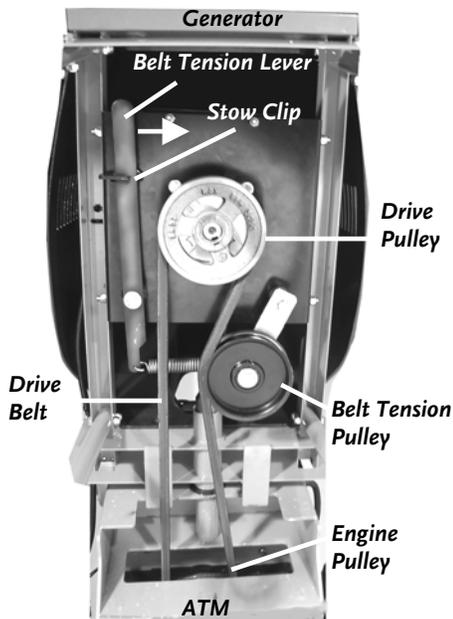

Figure 10
3. Pull and release the Belt Tension Lever from the Stow Clip beneath the Generator (**Figure 10**).
4. Install the supplied Drive Belt on the Engine Pulley below the ATM (**Figure 10**).